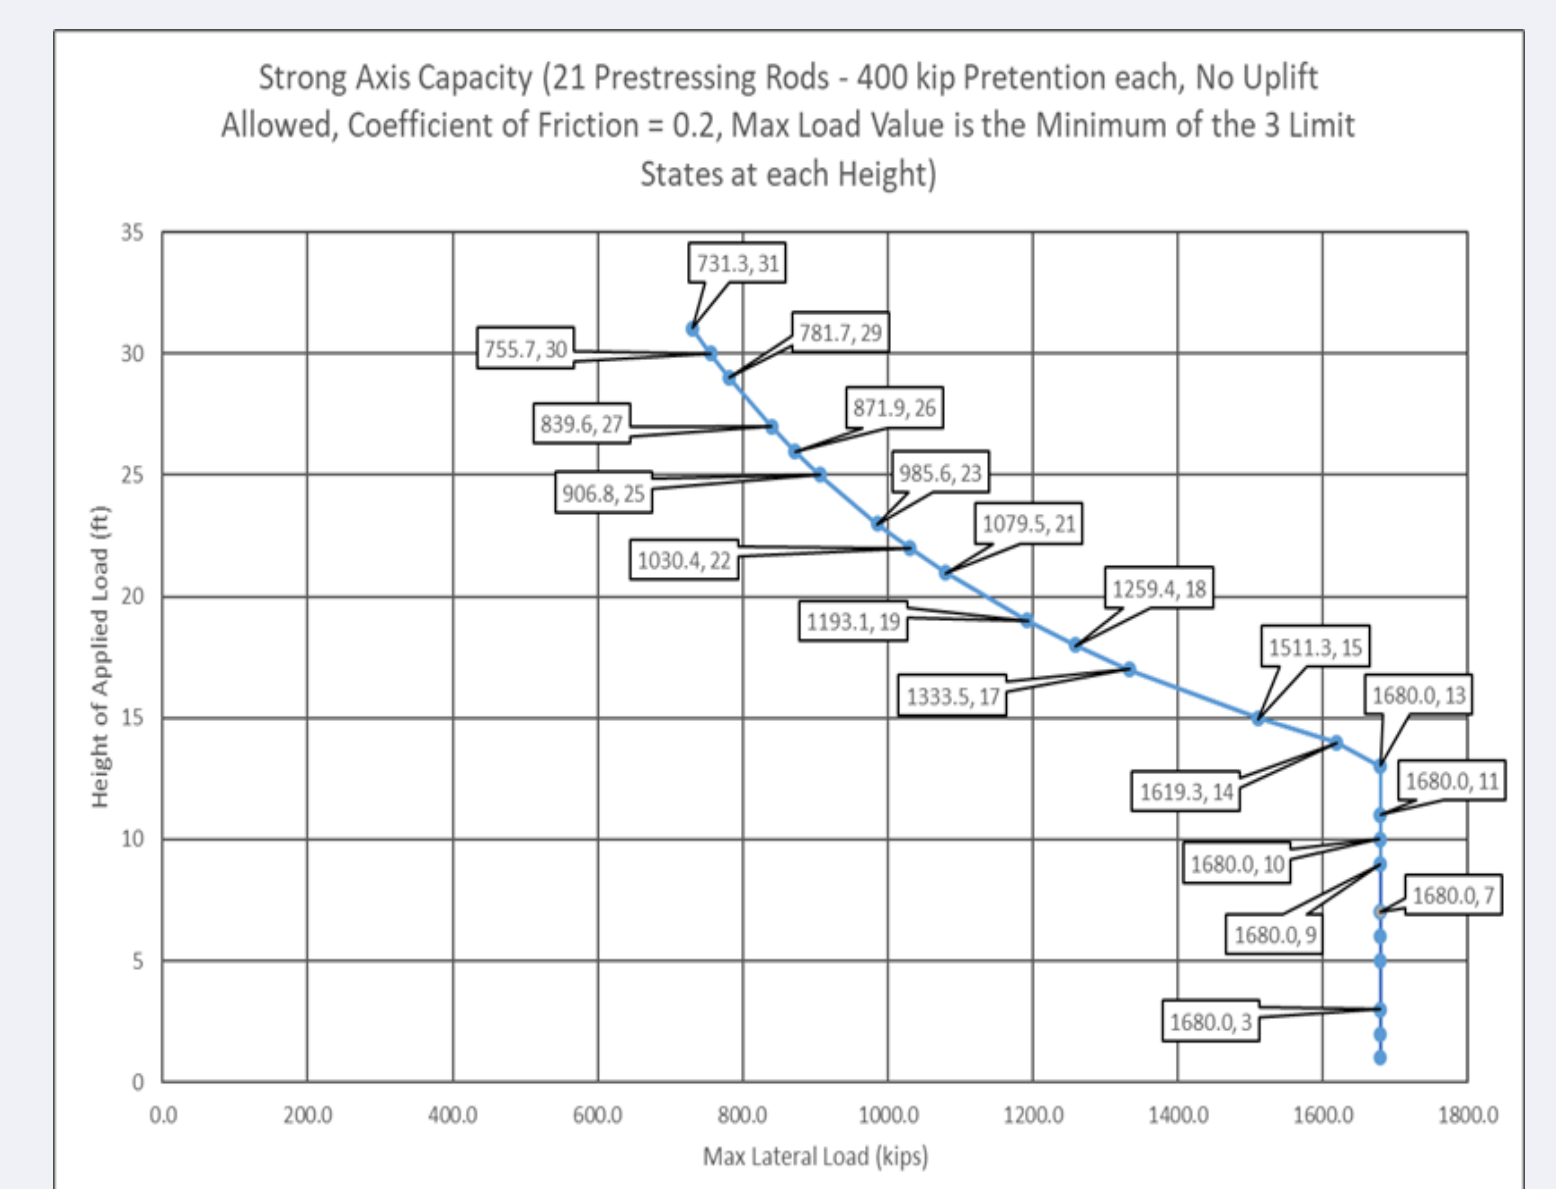

Fig. 6
- When the reaction wall is in its strongest configuration, the superstructure will be able to resist lateral loads of up to 750,000lbs applied at an elevation of 30' from the base of the reaction wall. (Fig. 6) Loading will be reduced due to internal reinforcement capacities